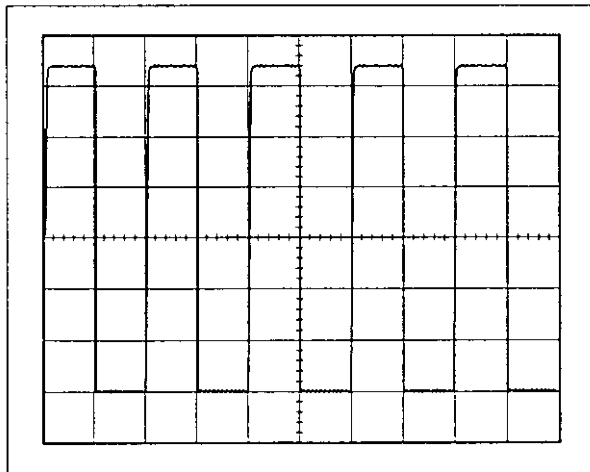

Figure 9. Code signal.
2. Set the signal generator to FM, 2,5 kHz deviation. Check that the CODE signal is as in figure 9, i.e. a square wave with amplitude > 0.85 Vp-p.